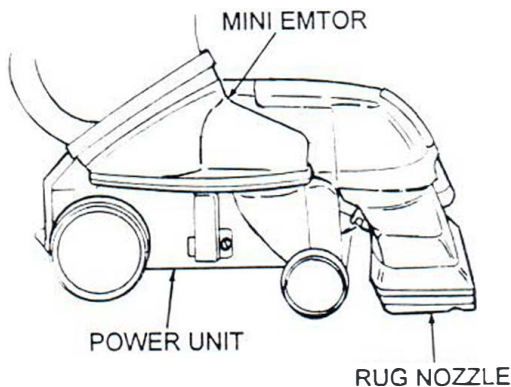

Figure 5. Power Unit
- A. See Figure 5. Remove rug nozzle (or hose if attached) and Mini Emtor.